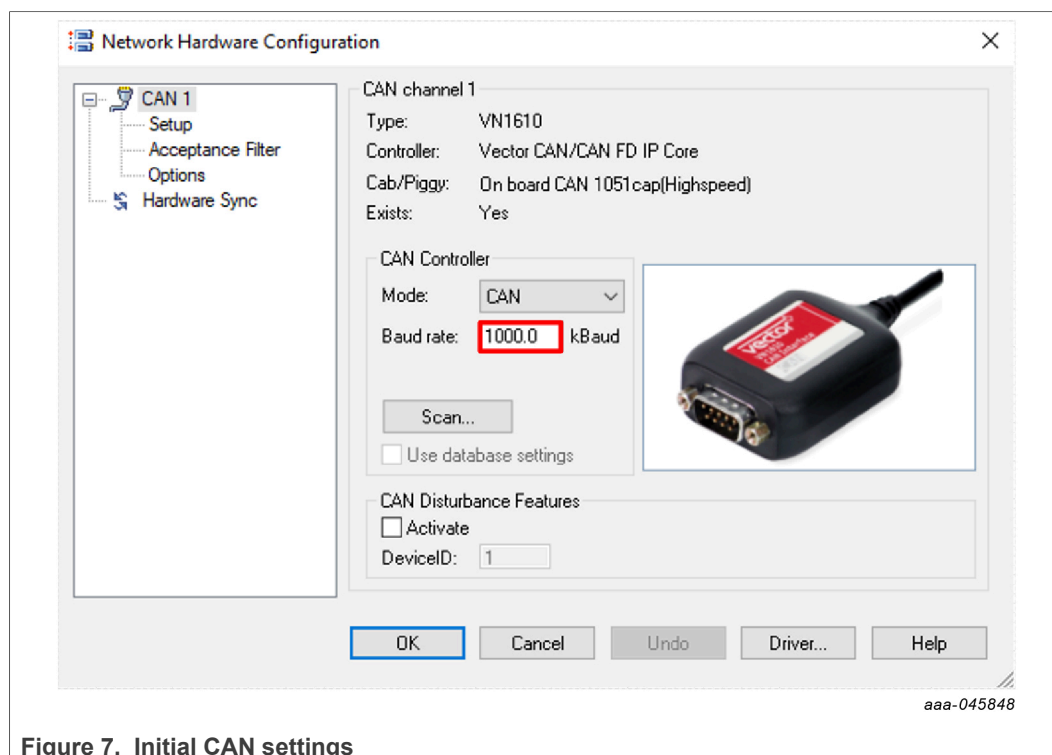

Figure 7. Initial CAN settings
3. Start CANoe installed in PC or laptop. Set up the workspace as described in Section 4. Set up the CAN channel as per the Vector CAN hardware (VN1610 as shown in Figure 7) connected to board populated with MC33665A CAN (FD).